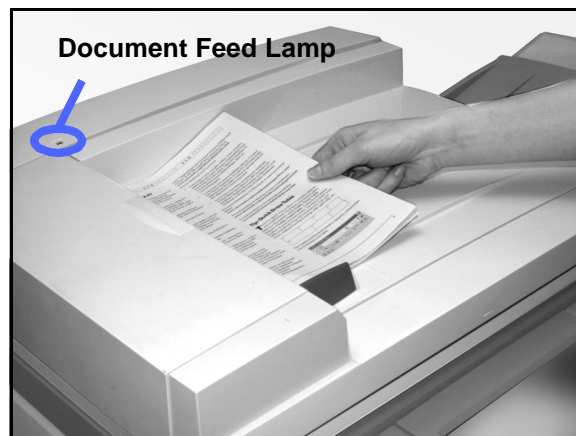

Figure 3: Placing documents in the DADF tray
- 2 Place the documents face up onto the DADF Tray, as illustrated in Figure 3. Slide the documents to the left until the green Document Feed Lamp lights.